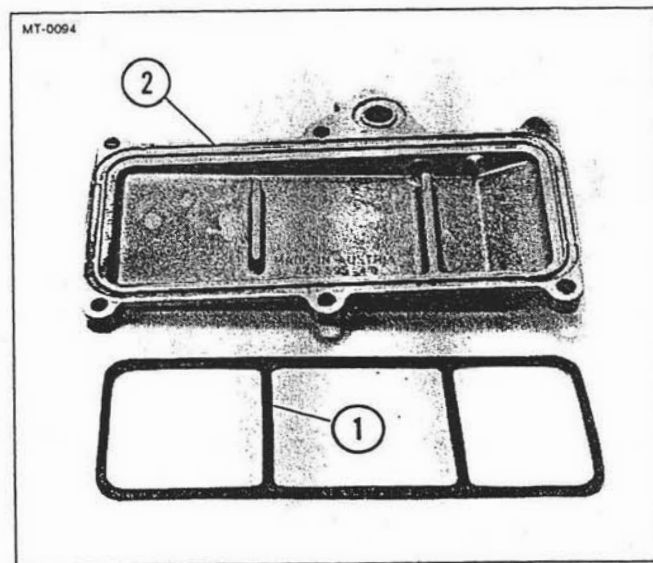

Figure 3-11. Sieve Cover and Gasket
See Figure 3-11. When installing screen and gasket in Step 2 below, be sure to install gasket (1) so that ribs of gasket are aligned with ribs cast into cover (2).